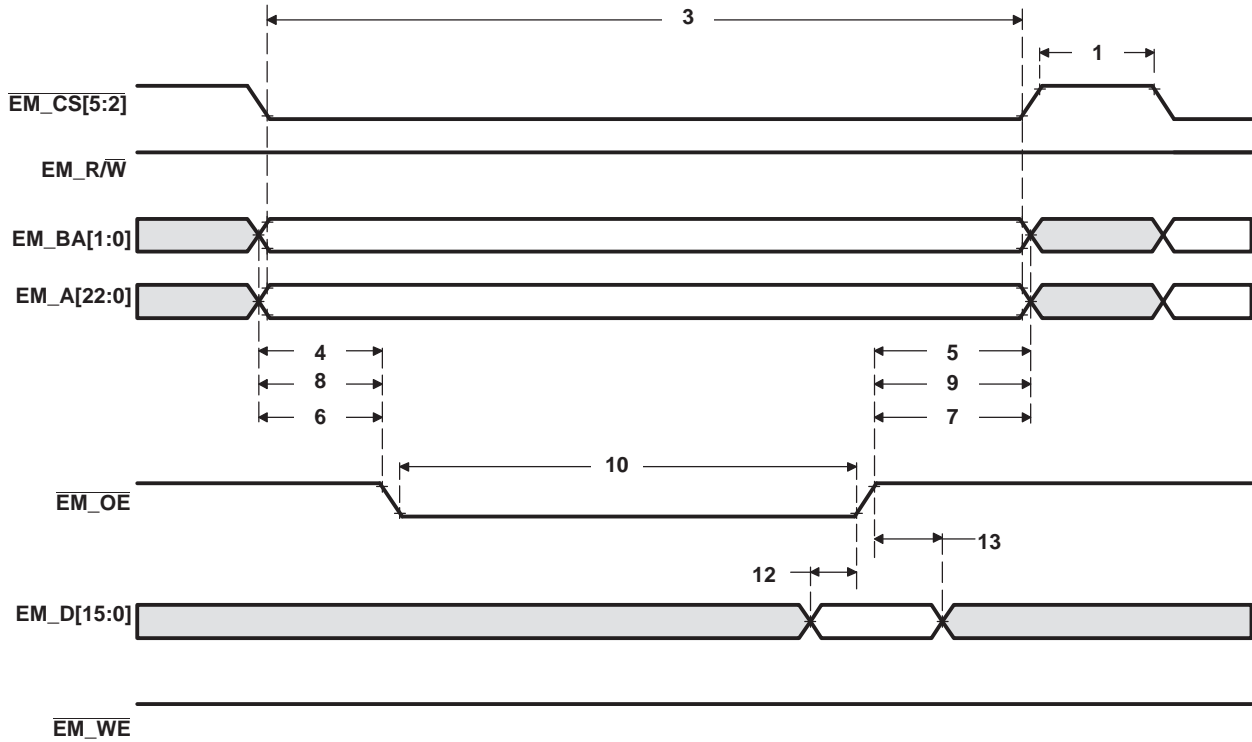
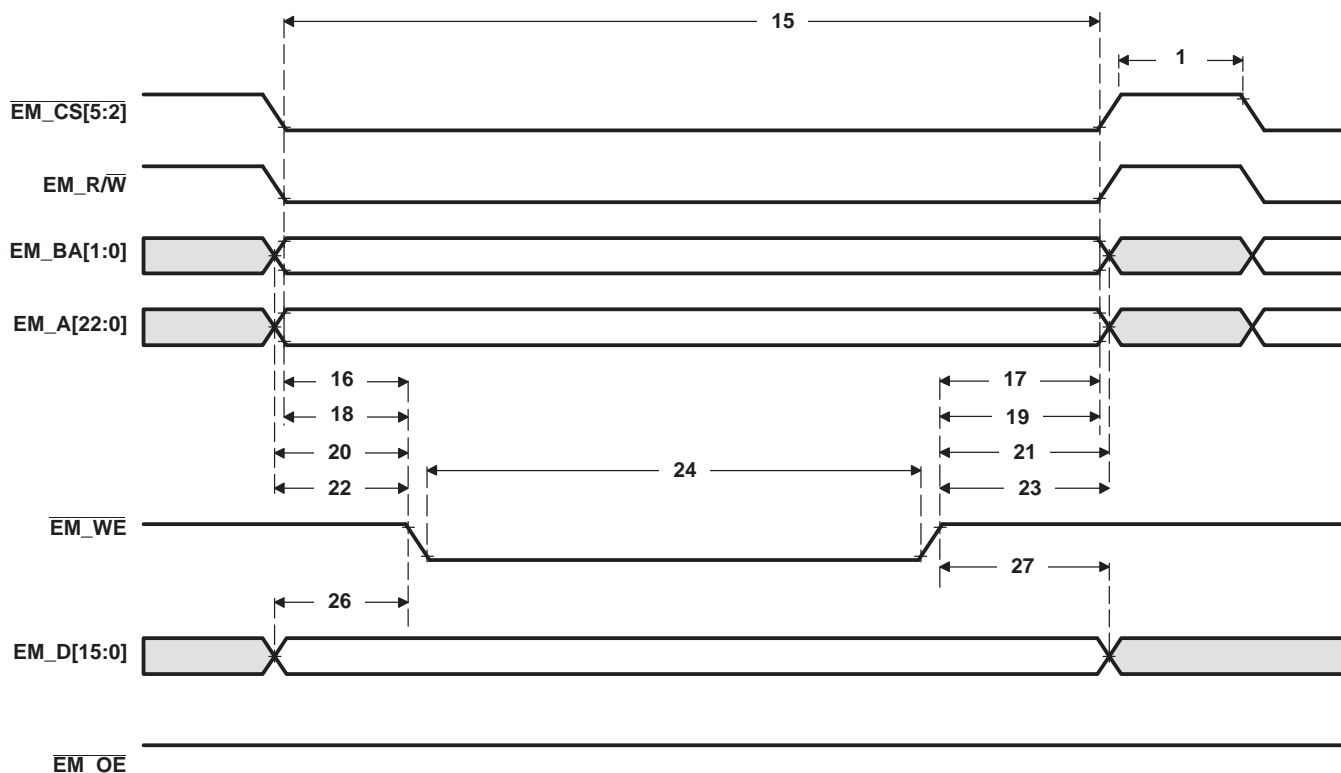

Figure 7-22. Asynchronous Memory Read Timing for EMIF
Figure 7-23. Asynchronous Memory Write Timing for EMIF
(see Figure 7-22 and Figure 7-23)
Table 7-30. Switching Characteristics Over Recommended Operating Conditions for Asynchronous Memory Cycles for EMIFA Module^{(1) (2)} (see Figure 7-22 and Figure 7-23)
Table 7-30. Switching Characteristics Over Recommended Operating Conditions for Asynchronous Memory Cycles for EMIFA Module (see Figure 7-22 and Figure 7-23) (continued)